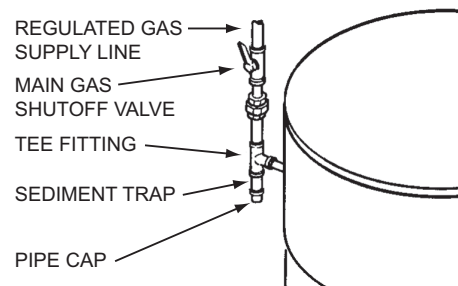

Figure 69. Supply Gas Line Installation
Ensure that all gas pipe is clean on the inside before installation. To trap any dirt or foreign material in the gas supply line a sediment trap must be installed as shown in **Figure 69**. The sediment trap must be readily accessible and not subject to freezing conditions. Install in accordance with the recommendations of the local gas utility company.
6. Install a sediment trap as shown in **Figure 69** (page 52).
7. Install a Main Gas Shutoff valve in the supply gas line as shown in **Figure 69** (page 52).